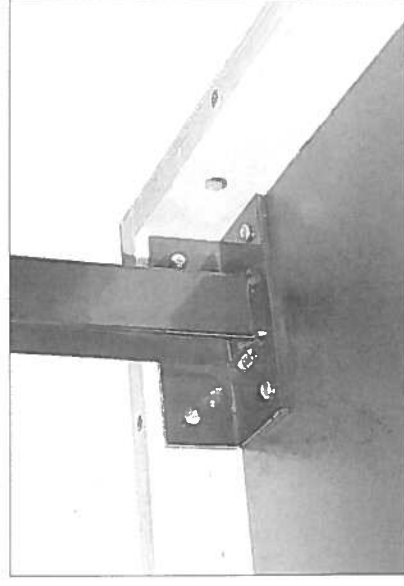

Figure 6
1. Place the optional wood extension table upside down. (Use a mat or cloth to protect the surface). Position the legs at the inside corners of the wood table at the end where the Powermatic logo is placed. See Figure 6.